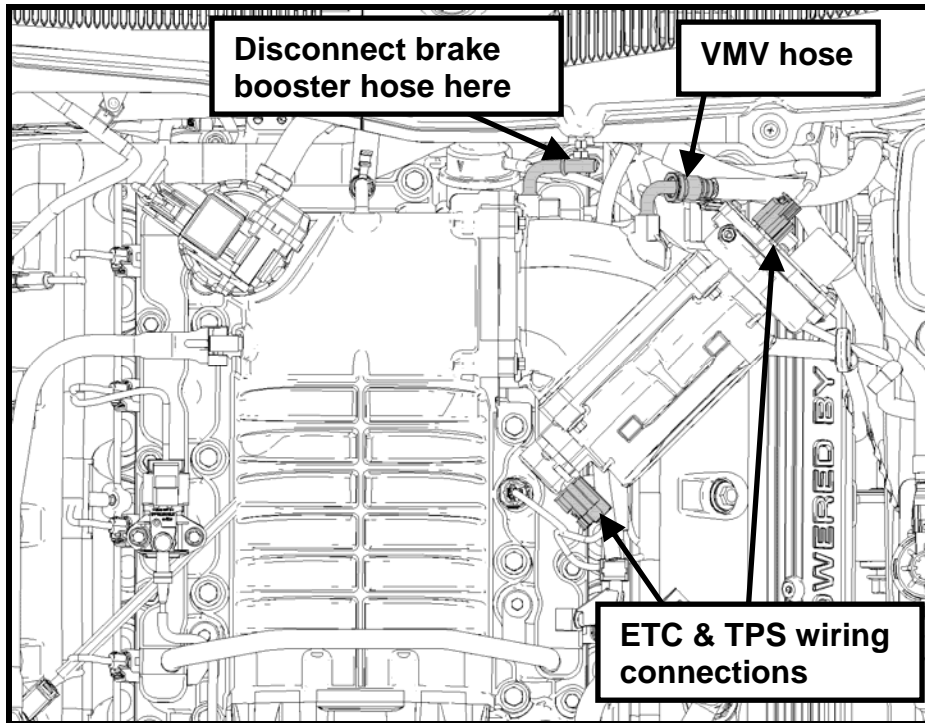
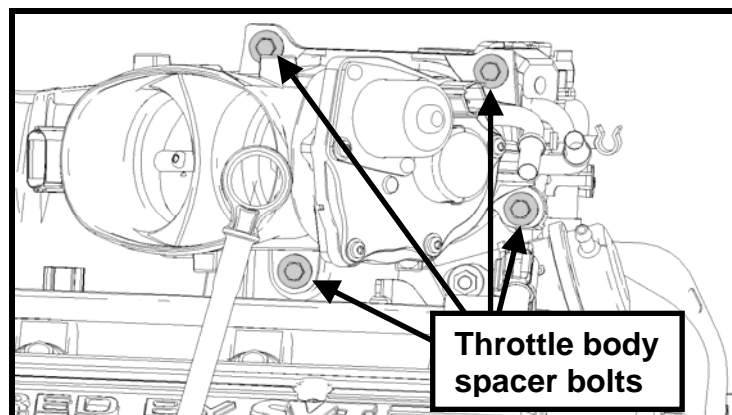

Fig. 7
Fig. 8
STEP 9: Disconnect the throttle body wiring in two places (ETC and TPS connections). Disconnect the brake booster and VMV hoses from the throttle body spacer (See Fig. 7). Remove the throttle body spacer (including throttle body) from the supercharger (See Fig. 8).